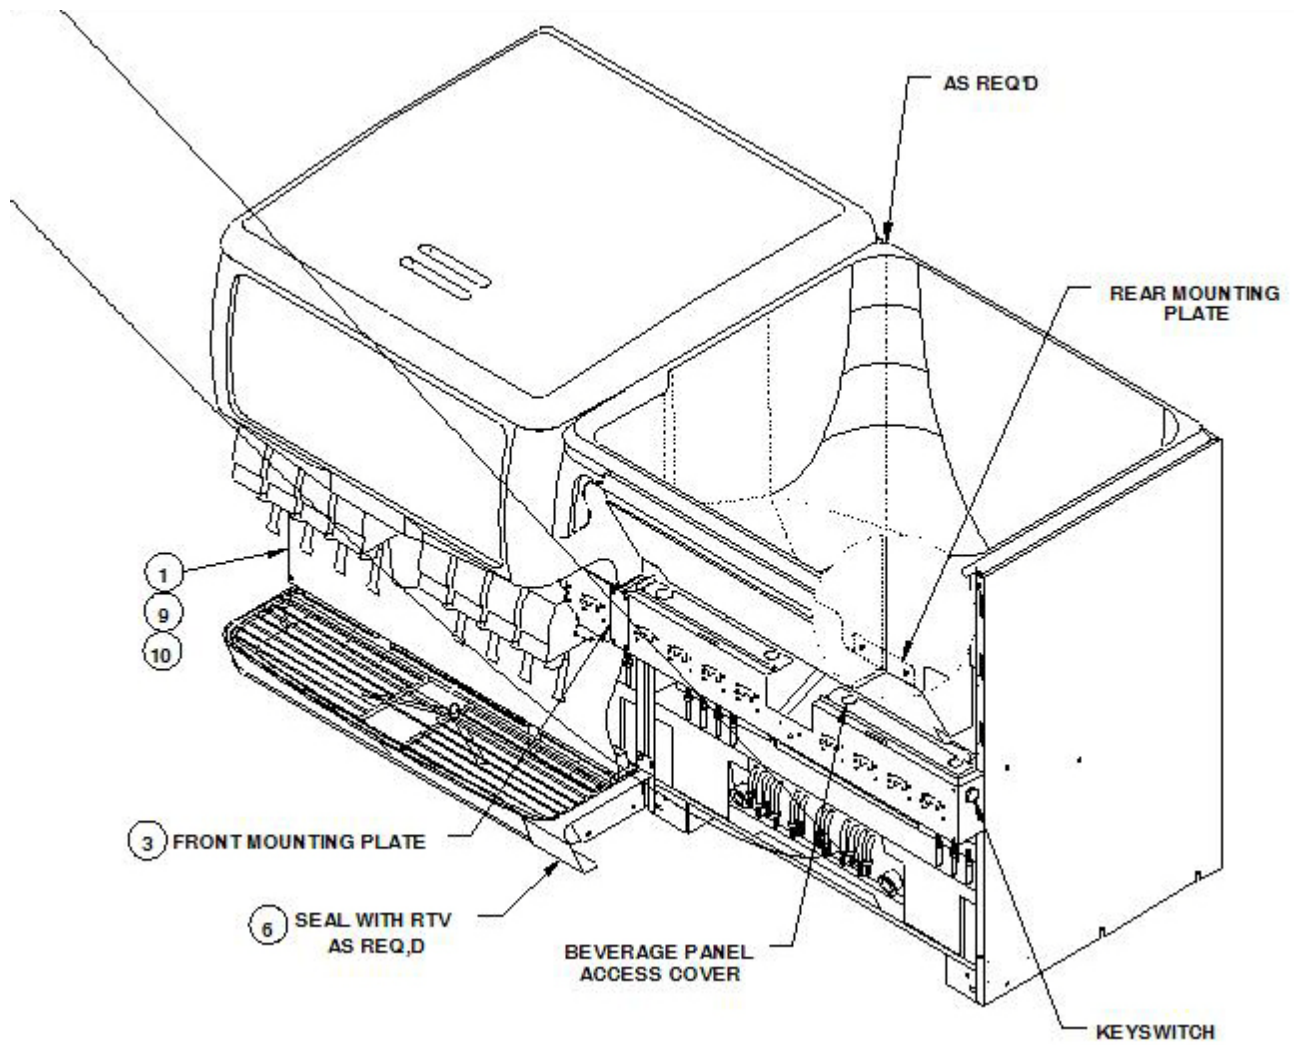

Figure 2.
6. Remove one screw from each base at the rear of the Unit and install rear mounting plate (item 2) to maintain the proper spacing between the Units (see Figure 2).
7. Install front mounting plate (item 3) using the four beverage panel mounting screws at the center of the Units. The rectangular plate is for use with the six or eight valve Units.
8. Apply RTV (item 5) at the gasket-cabinet joint to seal any gaps between the Units, on all sides of the gasket.
10. Assemble two long #8-32 screws (item 9) to lower panel (item 1) using plastic washers (item 10). Install lower panel assembly on Units.
11. Install Cornelius logo (item 11).